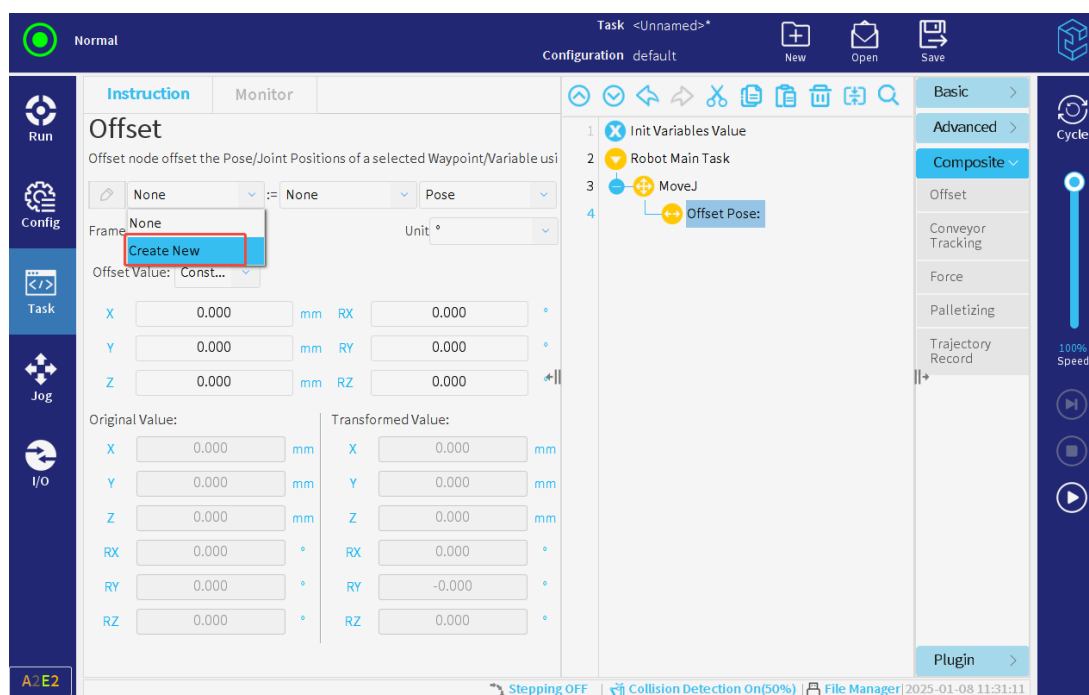

Figure 3-109 : Create A New Task Variable
- To create a new task, tap the first drop-down box and then select "Create New", as shown in **Figure 3-109** .